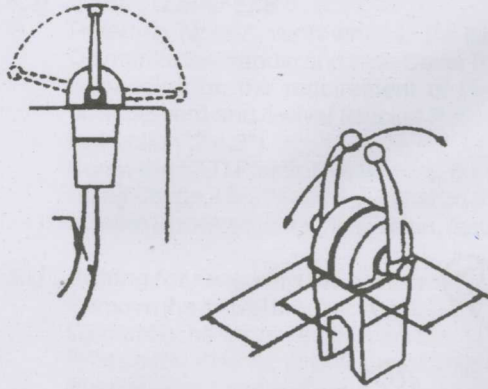

Fig. 1 Control Box Clearances
1.1) Before you install a Control Lever : (Ref. Fig. 1)